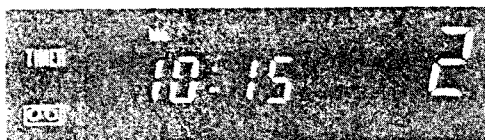

Fig. 12
5. Press the T-ADJ button to finish time setting. (Fig. 12)